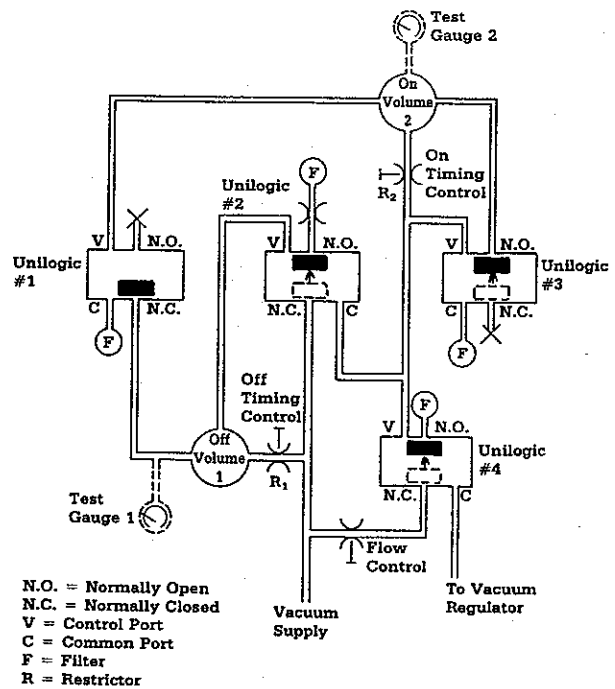

Figure 5
When the OFF reservoir has been evacuated to 5-8 in Hg vacuum (125-200 mm Hg), Unilogic Gate #2 changes state because the vacuum in the OFF reservoir is applied to the control port (V) of module #2. See Figure 5.
In Figure 5, note that the normally open (NO) port of unilogic gate #2 is blocked by the valve. This prevents air from flowing in and breaking the vacuum. The Normally Closed (NC) port is now open and the vacuum supply is connected directly through the normally closed (NC) port to the common (C) port. This connects the full line vacuum to the control ports (V) of both Unilogic Gate #3 and #4 as well as the ON volume reservoir.